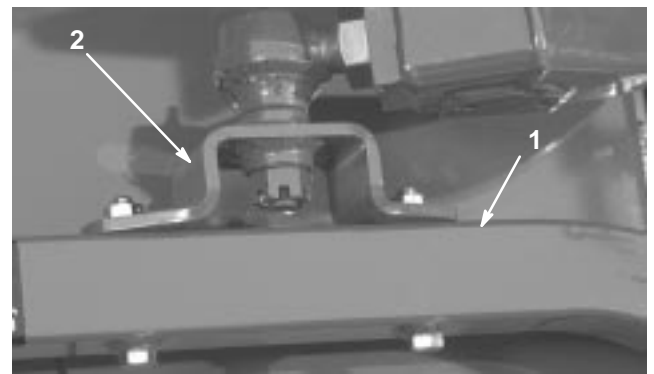

Figure 24
4. Remove the capscrews and locknuts securing the ball joint mounts to the castor arms on the cutting unit (Fig. 24).
4. Move the lift lever to the Float position. Push the lift arms down until the holes in the ball joint mounts line up with the holes in the castor arms (Fig. 24).